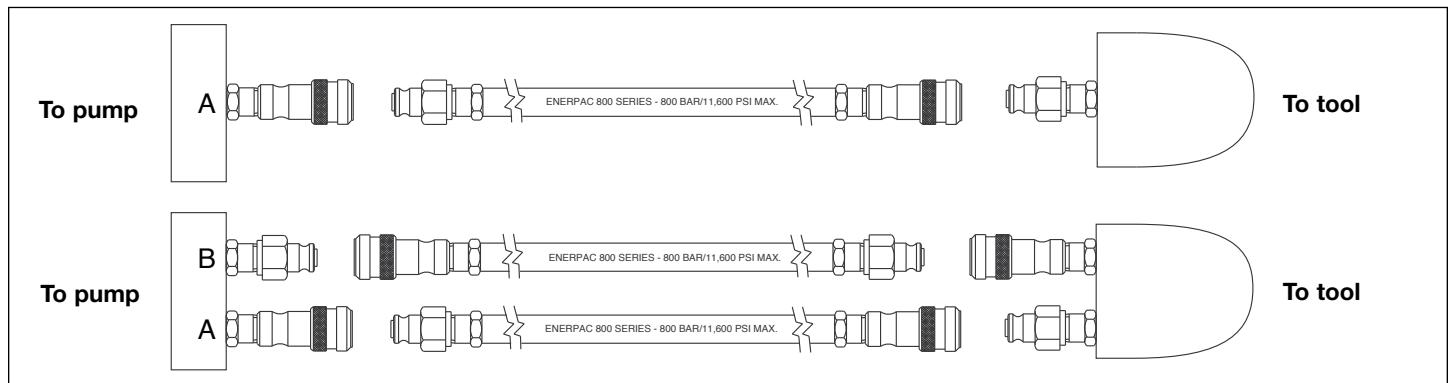

Figure 4 - Connections to Torque Wrench
- Connect other end of hose to coupler on wrench as shown in Figure 4. Hand tighten coupler lock rings.
- Couple hoses to torque wrench as shown in Figure 4. Hand tighten coupler lock rings. When using the Enerpac pump and torque wrench combination, Series 800 hoses and couplers are designed so that the pump advance port can only be connected to the wrench advance port, and the pump retract port can only be connected to the wrench retract port.